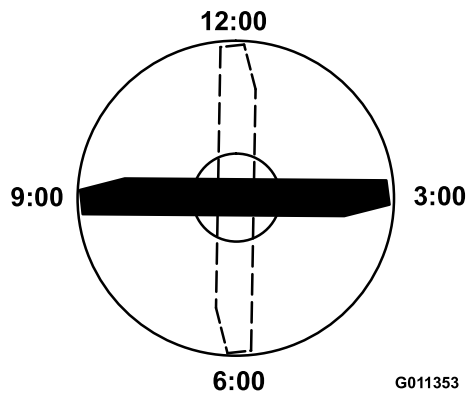

Figure 61
4. Position the cutting edge of the marked end of the blade at 12 o'clock (straight ahead in the direction of mowing) (Figure 61) and measure height from table to cutting edge of blade.
5. Rotate the marked end of the blade to the 3 and 9 o'clock positions (Figure 61) and measure the heights.